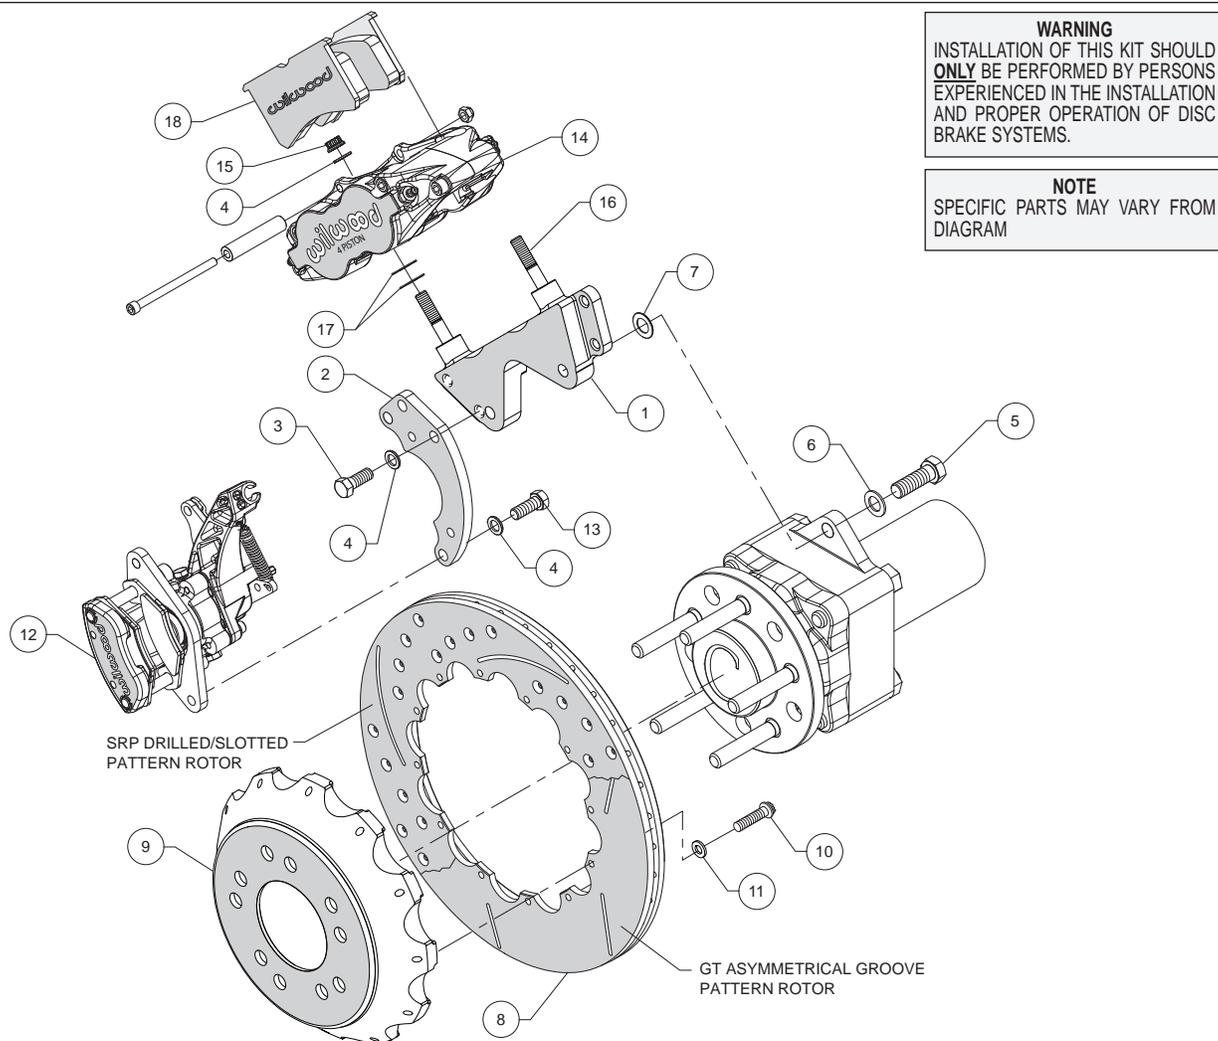
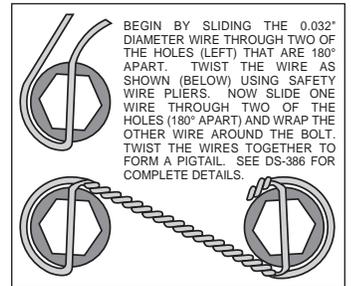

Figure 1. Typical Installation Configuration
Figure 3. Safety Wire Diagram
**Assembly Instructions** (numbers in parenthesis refer to the parts list and Figure 1 on the preceding pages):
- Attach the MC4 flat caliper bracket (2) to the radial mount caliper bracket (1) using bolts (3) and washers (4) as shown in Figure 1 and Photo 1. Apply red *Loctite*® 271 to the bolt threads and torque to 35 ft-lbs. **NOTE:** *The MC4 Bracket may be mounted on either end of the radial mount bracket.*
- The caliper mount bracket assembly (1/2) should initially be installed with clean, dry threads on the mounting bolts. Orient the bracket assembly as shown in Figure 1, and Photo 2, and install using bolts (5) and washers (6). Initially place one .032" thick shim (7) on each bolt between the bracket and axle hub, Figure 1. Temporarily tighten the mounting bolts. **NOTE:** *The bracket must fit squarely against the mount bosses on the axle hub.* Inspect for interference from casting irregularities, machining ridges, burrs, etc. Later, after the caliper alignment has been checked, the mount bolts will be secured using red *Loctite*® 271.
- Orient the rotor (8) and the hat (9) as shown in Figure 1 and Photo 3. Attach rotor to hat using bolts (10) and washers (11). Using an alternating sequence, apply red *Loctite*® 271 to the threads, and torque to 155 **in-lbs**. For an added measure of security, the bolts may be safety wired using standard 0.032 inch diameter stainless steel safety wire as shown in Figure 3. Please refer to Wilwood's data sheet DS-386 (available at [www.wilwood.com/Pdf/DataSheets/ds386.pdf](http://www.wilwood.com/Pdf/DataSheets/ds386.pdf)) for complete safety wire installation instructions.
- Lubricate the caliper mounting studs (16) with lightweight oil. Initially place two .035" thick shims (17) on each stud as shown in Figure 1 and Photo 5. Mount the caliper (14) onto the bracket (1) using lock nuts (15) and washers (4), Figure 1. Temporarily tighten the lock nuts and view the rotor through the top opening of the caliper. The rotor should be centered in the caliper, Photo 6. If not, adjust by adding or subtracting shims (7) between the bracket (1) and the mounting bosses. Always use the same amount of shims on each of the two mounting bolts. Once the caliper alignment is correct, remove the bracket mounting bolts (5) one at a time, apply red *Loctite*® 271 to the threads, and torque to 77 ft-lb.
- Mount the parking brake caliper (12) onto the lower section of the caliper mounting bracket assembly (1/2) using bolts (13) and washers (4), as shown in Figure 1 and Photo 10. Apply red *Loctite*® 271 to bolt threads, and torque to 30 ft-lb.